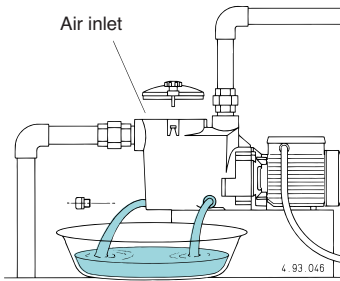

Fig. 4 Draining
**If the event of prolonged standstill periods or if freezing may be expected, drain the pump completely** by removing the two thumbscrew drain plugs with reusable O-ring gaskets (fig. 4).
Drain the pump casing before dismantling (see fig. 4 and section 10.). For dismantling and reassembly see construction in the cross-section drawing (section 12.).